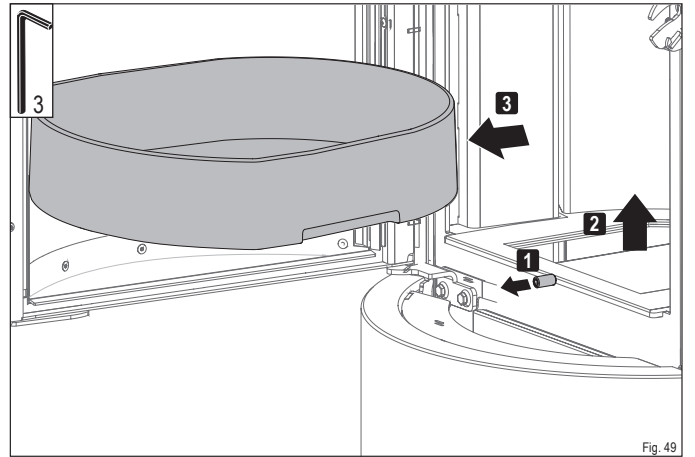

Fig. 49
- ▶ Loosen the set screw (Fig. 49).
- ▶ Lift the fire grate out of the opening (Fig. 49).
- ▶ Remove the fire grate from the firebox (Fig. 49).